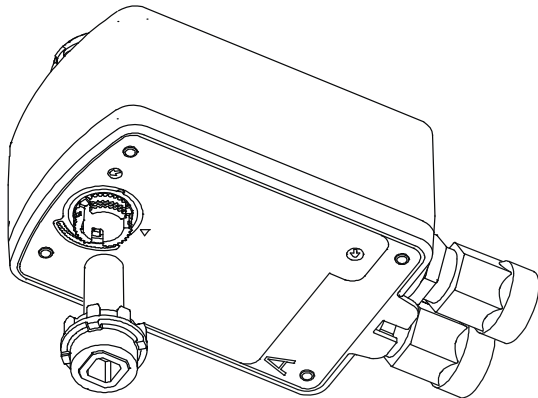

Figure 12: Inserting the Drive Shaft
3. Insert the drive shaft into Side A (Figure 12). The drive shaft is keyed for one-way assembly. With gentle pressure applied, rotate the drive shaft until the key aligns and the drive shaft falls into place.